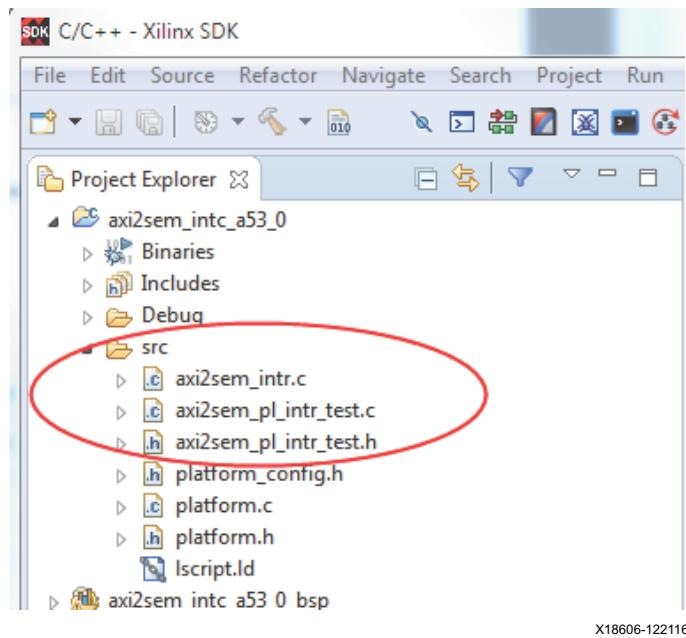

Figure 15: Project Explorer
3. Right-click the **src** directory. Select **Refresh** to make the copied files appear. See Figure 15.